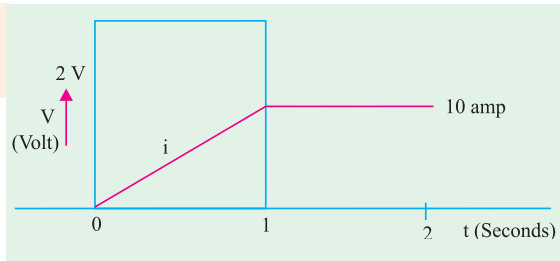

Fig. 8.16
**Example 8.26.** A voltage as shown in Fig. 8.16 is applied to an inductor of  $0.2\text{ H}$ , find the current in the inductor at  $t = 2\text{ sec}$ .